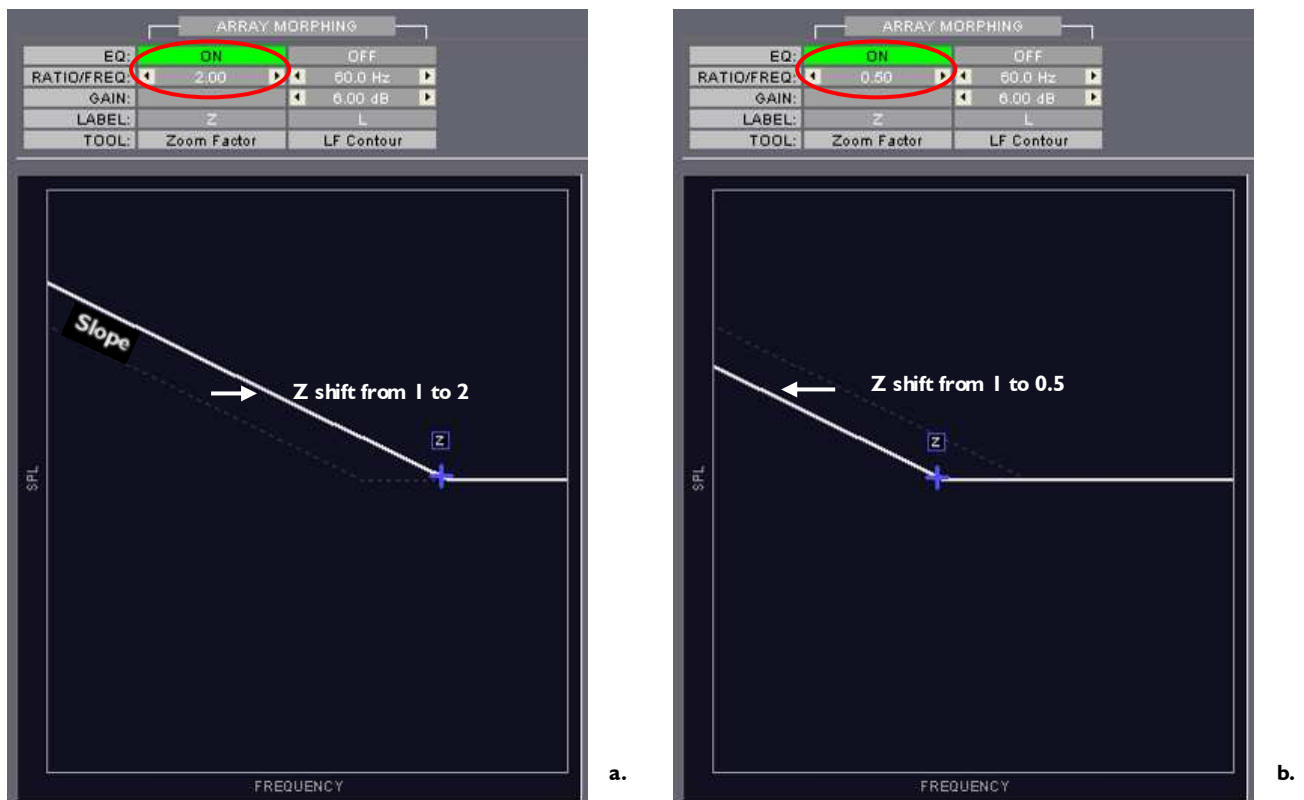

Figure 5: ZOOM FACTOR setting
- $Z = 1$ is the neutral setting and has no effect on the frequency response curve (dotted line on Figure 5).